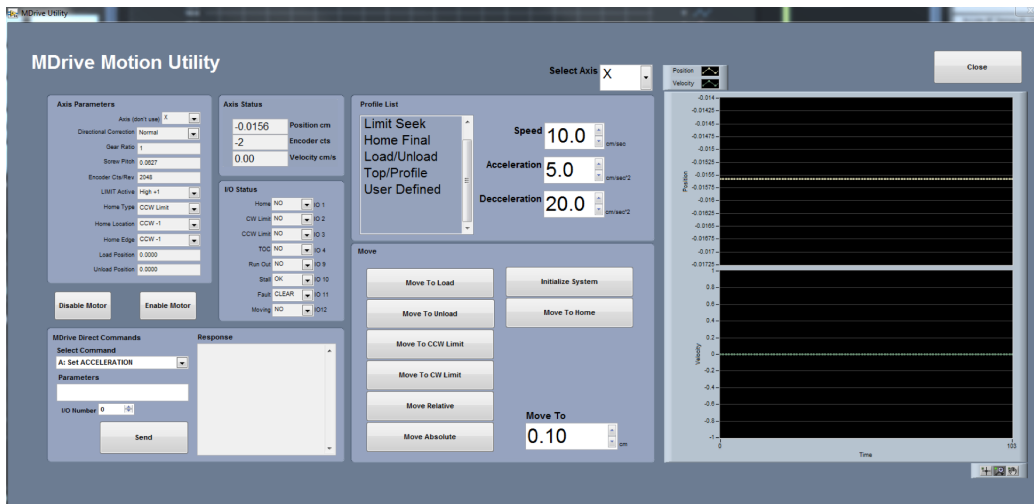

Figure 63- Motion Utilities Window
- Click the **Motion Utility** button to open the Motion Utility window (Figure 63) and test the settings. Click **Close** to exit this window.
- **Track Length:** Distance in cm between the limit switches. Use the Motion Utility (**Figure 63**) to determine this value by moving from limit switch to limit switch plus the length of the tray used.
- Click the **Motion Utility** button to open the Motion Utility window (**Figure 63**) and test the settings. Click **Close** to exit this window.
- **User Define:** This profile is used for testing only in the **Motion Utilities (Figure 63)** program.
- Click the **Motion Utility** button to open the **Motion Utility (Figure 63)** window and test the settings.